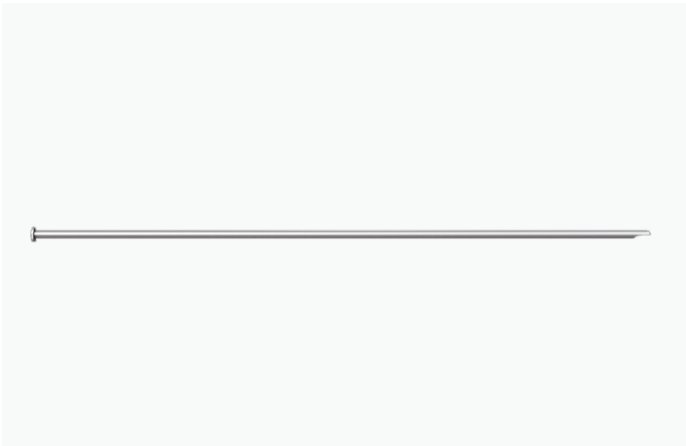

Figure 52
Each pre-filled Diverted Fill Tube contains 6 segments (2 cc) of bone graft material. (Fig. 52)
**Note: The diverted opening on the Bone Tube corresponds to the laser mark on the Tube Twister (Figs. 52 and 53).**